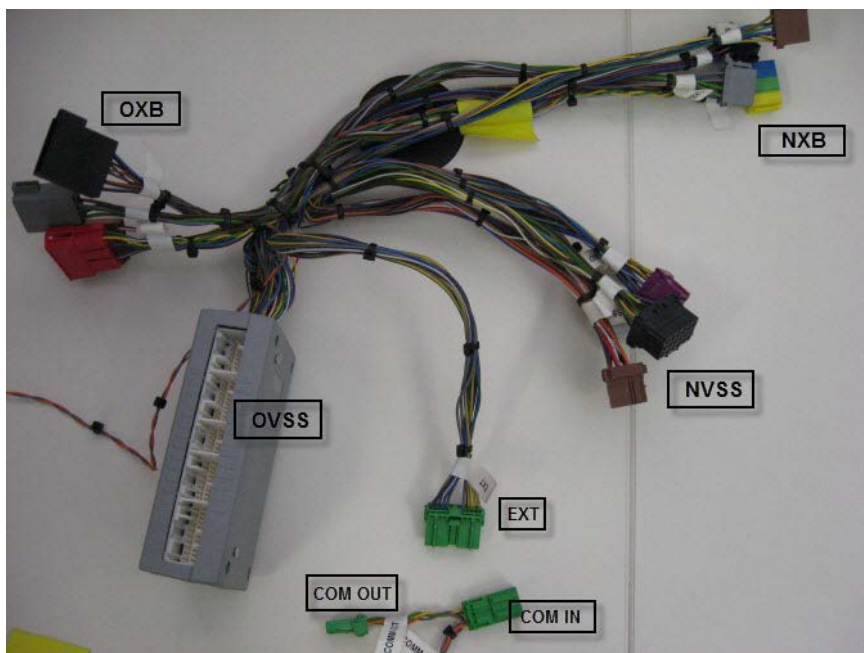

Fig.9 Interface harness connectors identification.
- Using Fig.9 below, locate the connectors groups on the interface harness required to connect the VSS05 sound selector to the VSS04 vehicle harness.